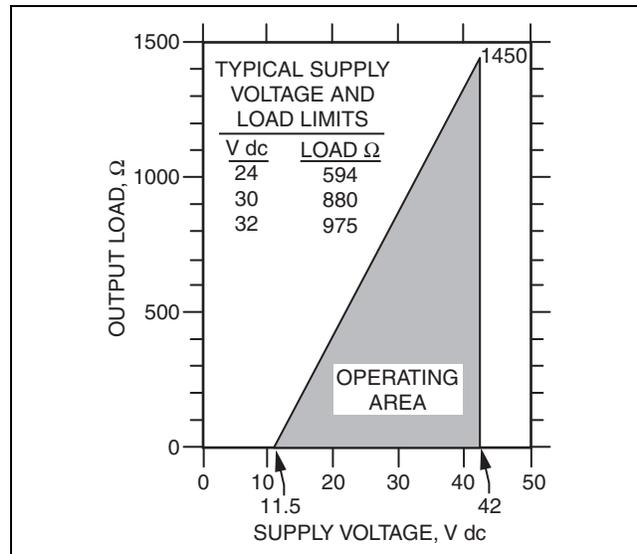

Figure 18. Supply Voltage vs. Output Load
**Supply Voltage Requirements and External Loop Load Limitations (Figure 18)**
Nominal minimum voltage shown in Figure 18 is 11.5 V dc. This can be reduced to 11 V dc using a plug-in jumper across the test receptacles in the field wiring compartment terminal block. An optional plug-in shorting bar (Figure 21) is offered for this purpose.
- (e) 11.5 V dc can be reduced to 11 V dc by using a plug-in shorting bar; see “Supply Voltage Requirements” section and Figure 18.